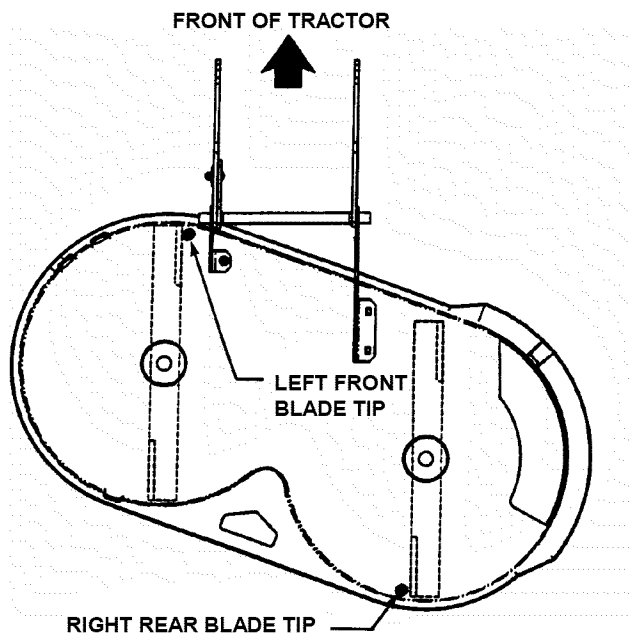

FIGURE 4.16
1. Position the blades as shown. See Figure 4.16.